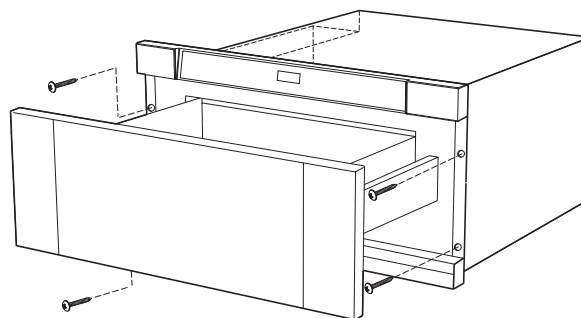

Figure 7A
- Open the drawer. Using the 4 holes on the drawer as a template, predrill the cabinet using a 1/16" bit. See **Figure 7A**.